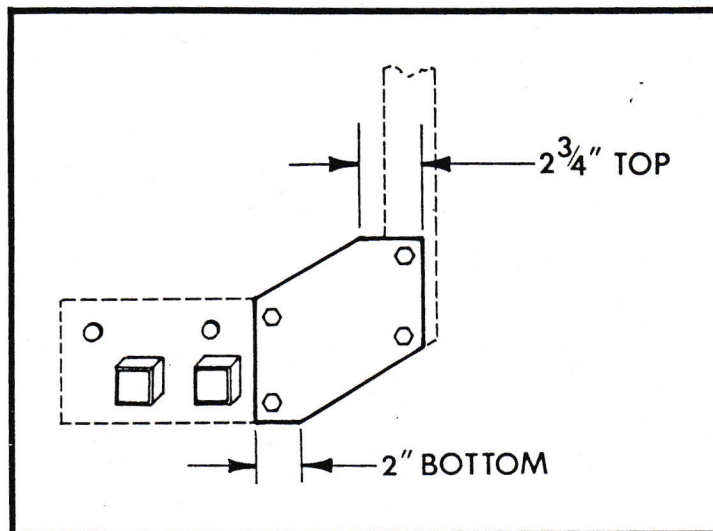

FIGURE 1
- 5.3 Attach the two risers to the outside of the support with two 1/2-13x1.25 bolts and two lock nuts. Do not tighten the bolts. See Figure 1 for correct position of the risers.